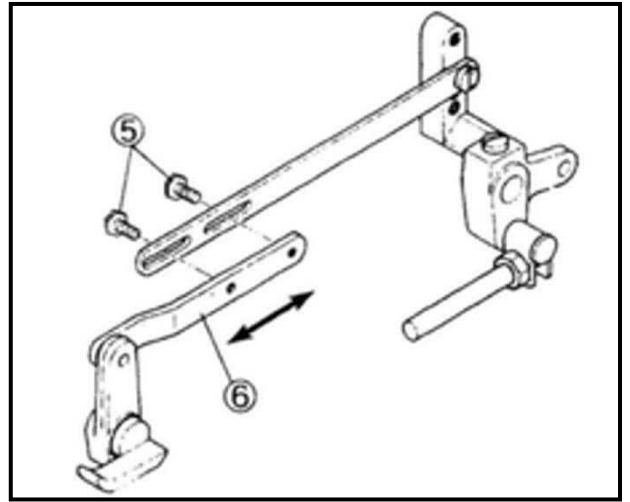

Fig.6
- (2) 放松压脚连接杆螺钉⑤。(Fig.6)
- (3) 移开压脚连接杆螺钉（短）⑥右边或左边去调整间隙。
- ② Loosen the screw ⑤ of the presser foot lifter lever link (long). (Fig. 6)
- ③ Move the presser foot lifter lever link (short) ⑥ right or left to adjust the clearance.